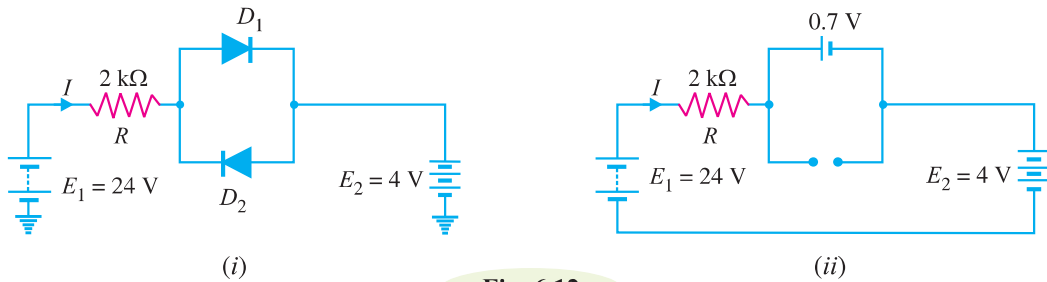

Fig. 6.12
**Example 6.5.** Determine the current  $I$  in the circuit shown in Fig. 6.12 (i). Assume the diodes to be of silicon and forward resistance of diodes to be zero.
**Solution.** The conditions of the problem suggest that diode  $D_1$  is forward biased and diode  $D_2$  is reverse biased. We can, therefore, consider the branch containing diode  $D_2$  as open as shown in Fig. 6.12 (ii). Further, diode  $D_1$  can be replaced by its simplified equivalent circuit.